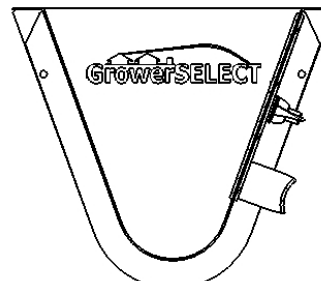

Figure 4
4. Hold access plate in place while tightening wing nuts (Figure 4).